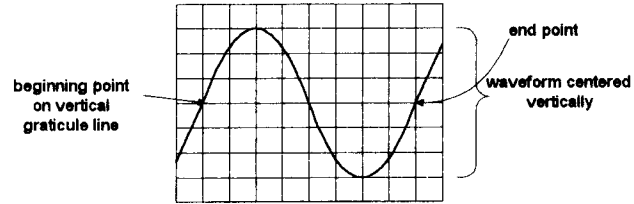

Fig. 8. Sine wave period measurement
4. If accurate waveform frequency or period measurement is to be made, center the waveform vertically. The complete period must be measured from one point or the beginning of the waveform to the same point beginning the next waveform.(see Fig. 8)
For example if the TIME/DIV setting for Fig. 8 is 0.1ms/div then the period is 8 div/cycle times 0.1ms/div = 0.8 ms/cycle. The frequency is then